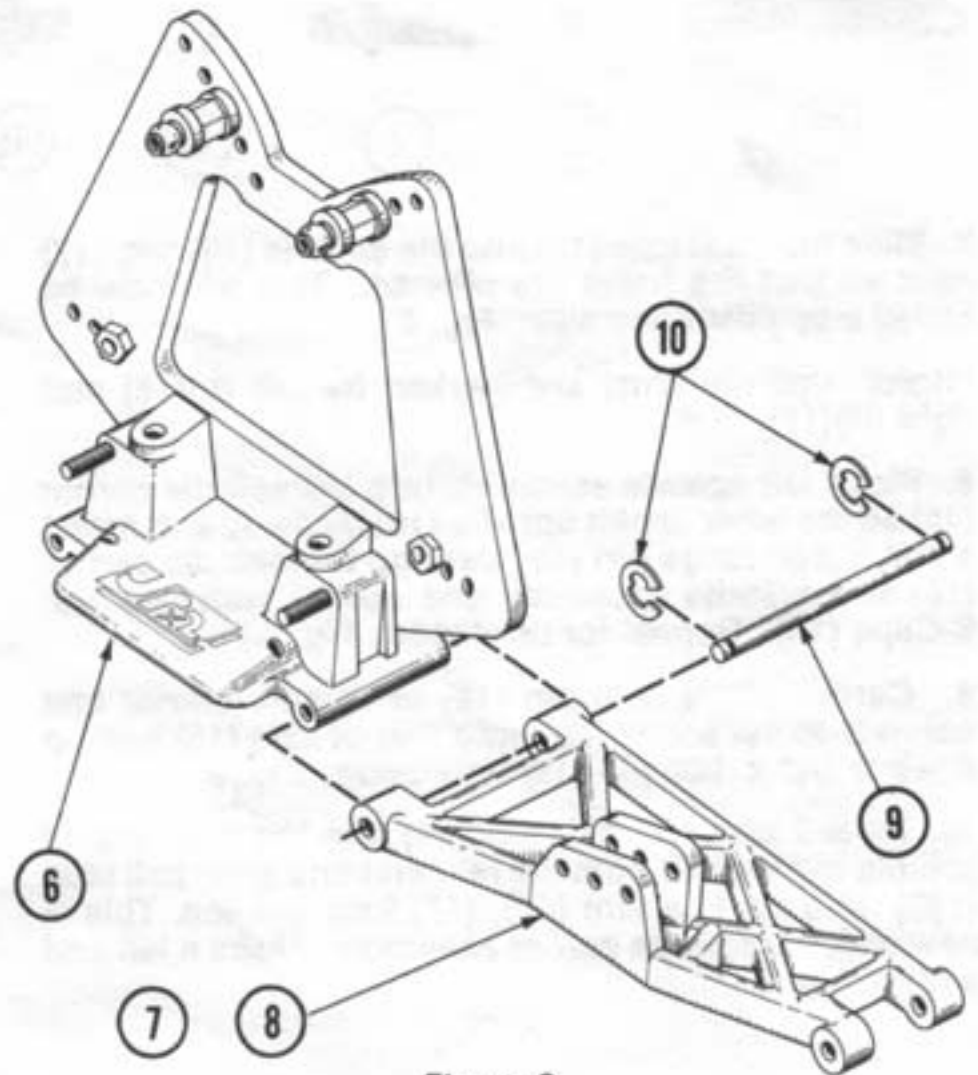

Figure 3
4. Attach the front suspension arms left (7), right (8) front to the front bulkhead (6) using 1/8" x 1.650 hinge pins (9) and secure the pins (9) with four 1/8" E-Clips (10) Fig.3
- Note: Be sure that arms (7) & (8) sweep rearward and shock mounting holes are on top.